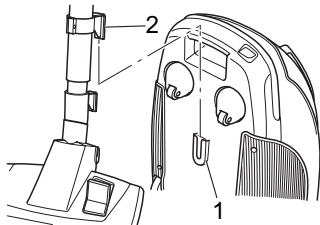

Fig. 16
- When **putting away** the vacuum cleaner, you can also use the stow-away hook mount (Fig. 16/1) on the underside of the cylinder vacuum cleaner. This is where you can hook the stow-away hook (Fig. 16/2) onto the telescopic tube (Fig. 16).